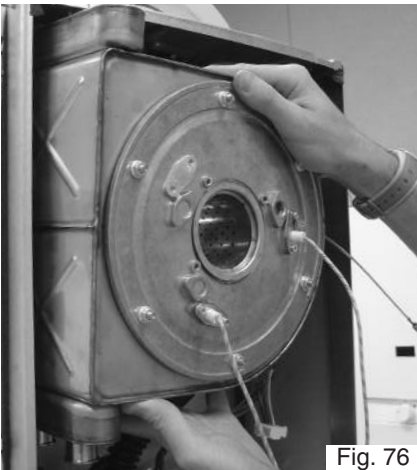

Fig. 76
5. Remove the heat exchanger from the boiler by sliding out. (Fig. 76);